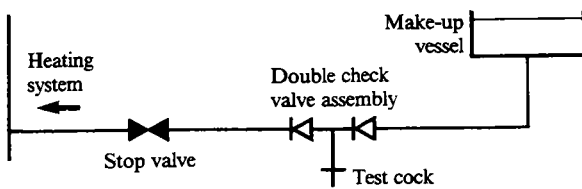
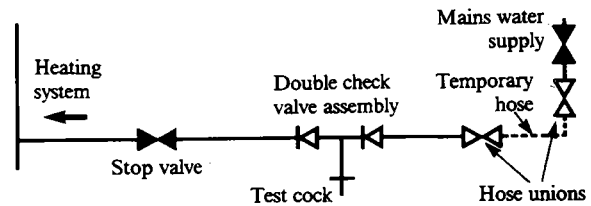

Fig. 4a
Fig. 4b
4. Water lost from the system shall be replaced from a make-up vessel, and double check valve, mounted higher than the top of the system and connected as shown in Fig. 4a or manually by a temporary hose connection as shown in Fig. 4b (remove the temporary hose after use).